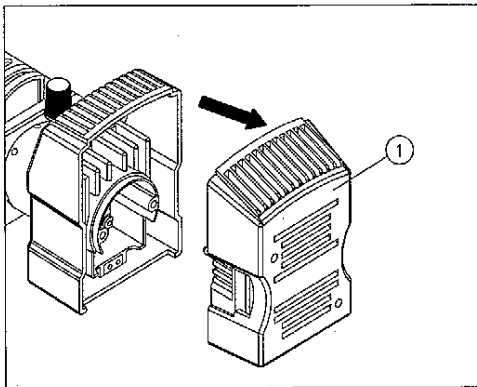
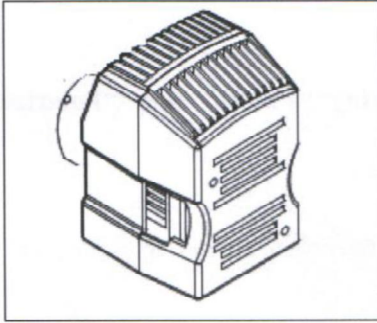

Fig.4
Fig.7
■ Installing and Replacing the Bulb (Fig.4-Fig.7)
1. Pull out the lamp house① as shown in fig.4